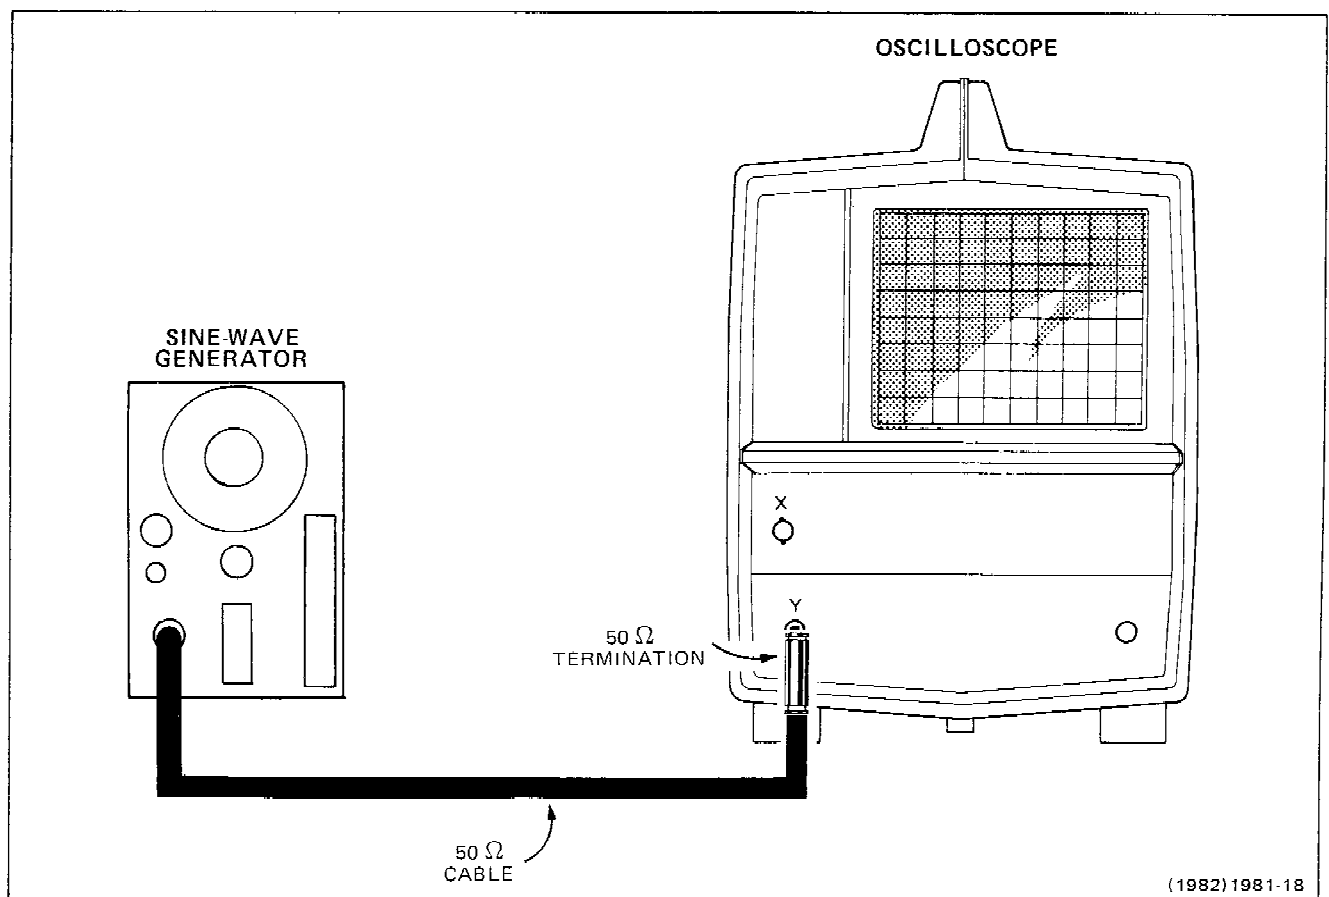

Fig. 4-3. Storage adjustment setup.
k. Connect a bnc  $50\ \Omega$  cable to the sine-wave generator, terminate cable with a  $50\ \Omega$  termination, and connect the termination to the CH 1 input. (See Fig. 4-3.)
k. Connect a bnc 50  $\Omega$  cable to the sine-wave generator and terminate the cable with a bnc 50  $\Omega$  termination attached to the CH 1 input (see Fig. 4-3).